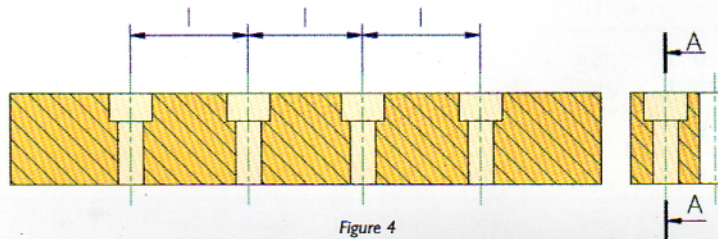

Figure 4
■ **Method B** attaches the rack from its side (attachment screws are parallel with the gear teeth). The screw heads can be exposed (straight holes) or sunk (counter-bored holes). See Figure 4.